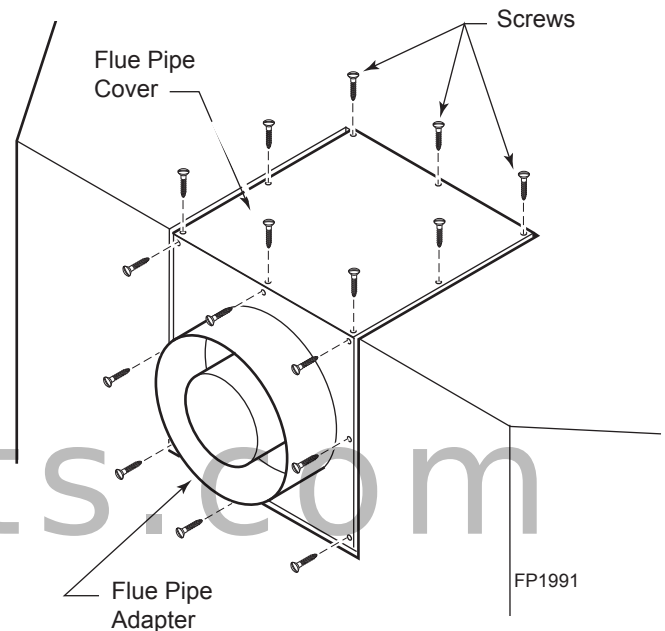

Figure 8 - Removing sixteen (16) Screws from Flue Pipe Adapter and Flue Pipe Cover
1. Remove the eight (8) screws securing the flue pipe adapter to the fireplace body. *Figure 8*
3. Remove the eight (8) screws securing the flue pipe cover to the top of the intake box and remove the cover and gasket. *Figure 8*